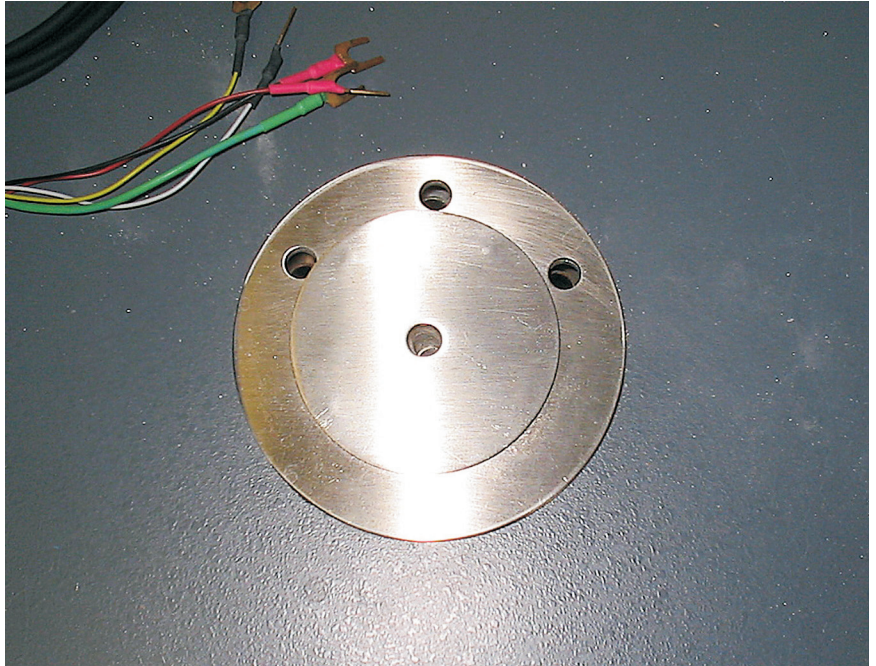

Figure 29 Heat radiation guard installed.
24. Install the heat radiation guard (Figure 29).